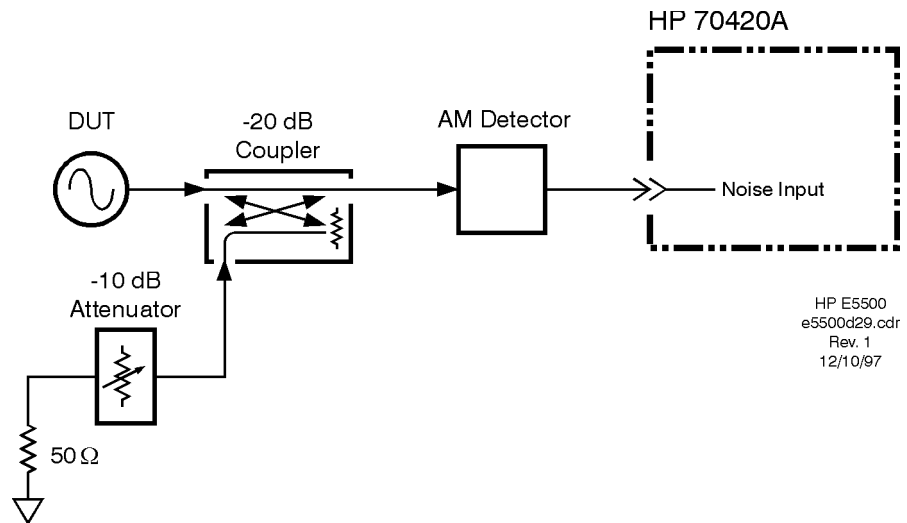

Figure 12-18 AM Noise Measurement Setup Using Single-Sided-Spur
- 1 Connect circuit as shown in Figure 12-18, and tighten all connections. If the Agilent 70420A Option 001 or Agilent 70427A is available, use one of the connection diagrams described in “AM Noise Measurement Block Diagrams” on page 12-3.